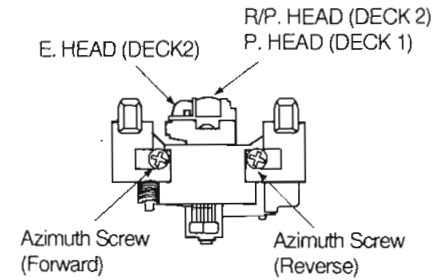

Fig. 3
3. Playback the azimuth adjustment portion (8 kHz, -20dB) of test tape (QZZCFM). Adjust the azimuth adjusting screw until the outputs of the L/R-ch are maximized. (Refer to Fig. 3.)